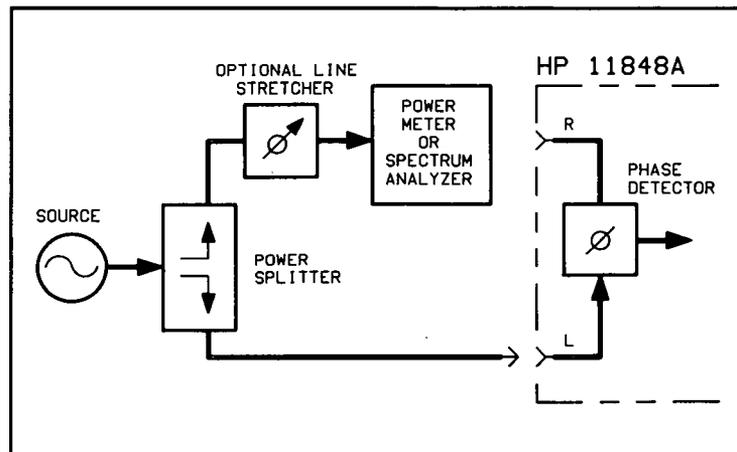

Figure 4-6. Measuring Power at Phase Detector R Port
1. Connect circuit as per Figure 4-6, and tighten all connections.